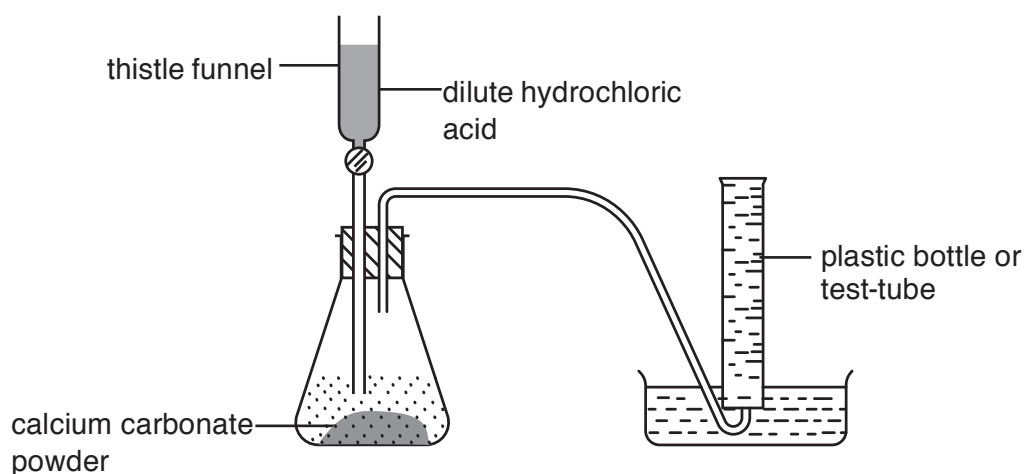

Fig. 1.2
- To prepare carbon dioxide, you may react calcium carbonate powder with 2M hydrochloric acid as shown in Fig. 1.2.